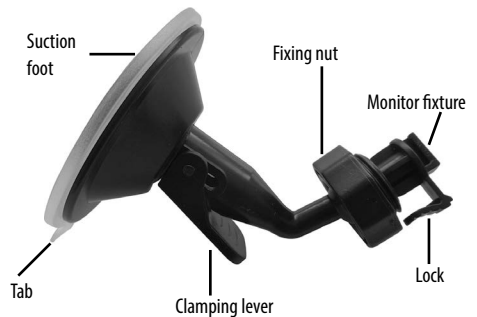
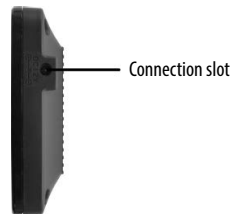

Figure 7: Monitor holder
Figure 8: Connection slot
Insert the monitor fixture of the monitor holder, position 10 in the overview, see Figure 7, in the recess on the back of the monitor. Slide the monitor completely on the fixture, until the lock engages. Insert the angle plug of the monitor connection cable, item 2 in the overview, in the connection socket of the monitor, Figure 8.